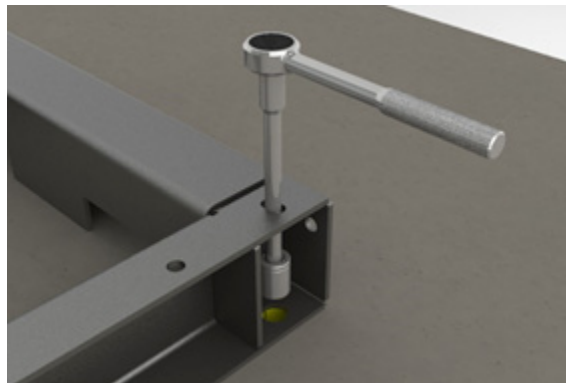

Figure 5 Torque the Anchor Bolts
5. Once the base assembly is level, torque the anchor bolts to the proper rating based on the manufacturer's specification (See Figure 5). A standard 3/8" extension can be used as shown if tool clearance is an issue.